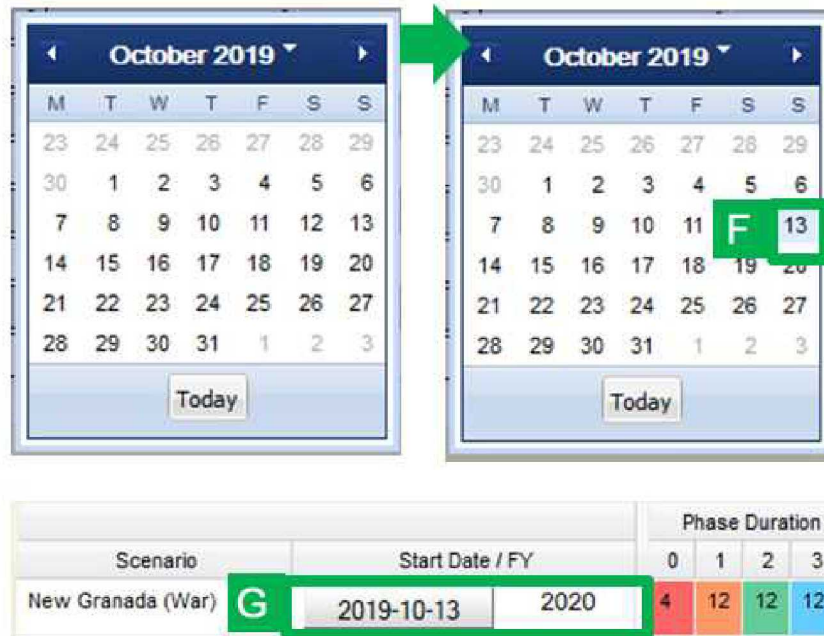

Figure 11. Selecting the day for a start date.
8. You will be returned to the calendar view. Click on a Sunday (last column on the right) for the start date of the scenario (step F in Figure 11).
9. The start date and FY will be updated in the table (step G in Figure 11).